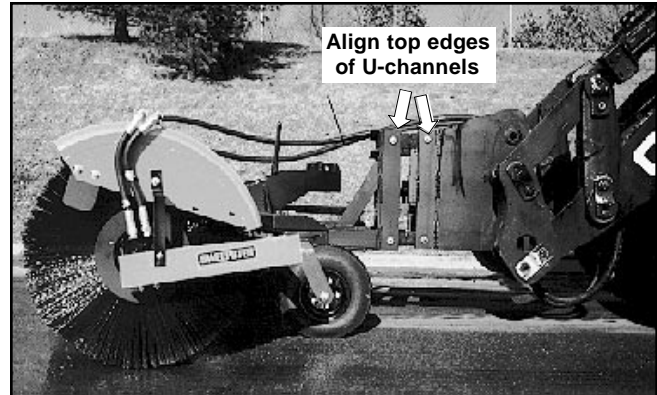

Figure 1
3. Adjust the loader arms so the tops of the U-channels on the sweeper and the tops of the U-channels on the loader arms are even (Figure 1).